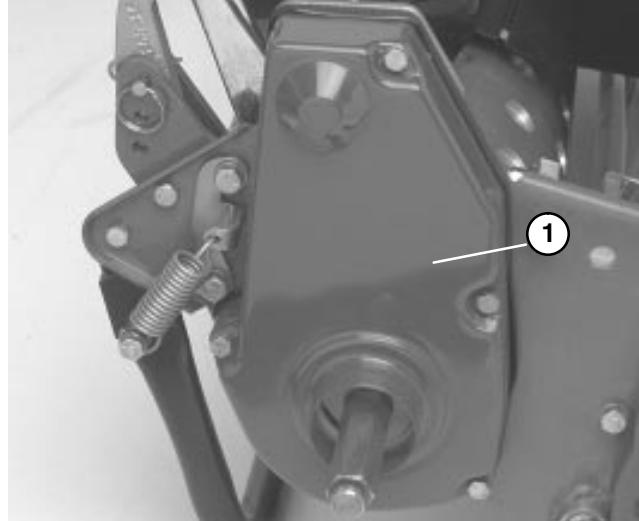

Figure 35
- A. Remove belt cover mounting screws and belt cover to expose belt (Fig. 35).